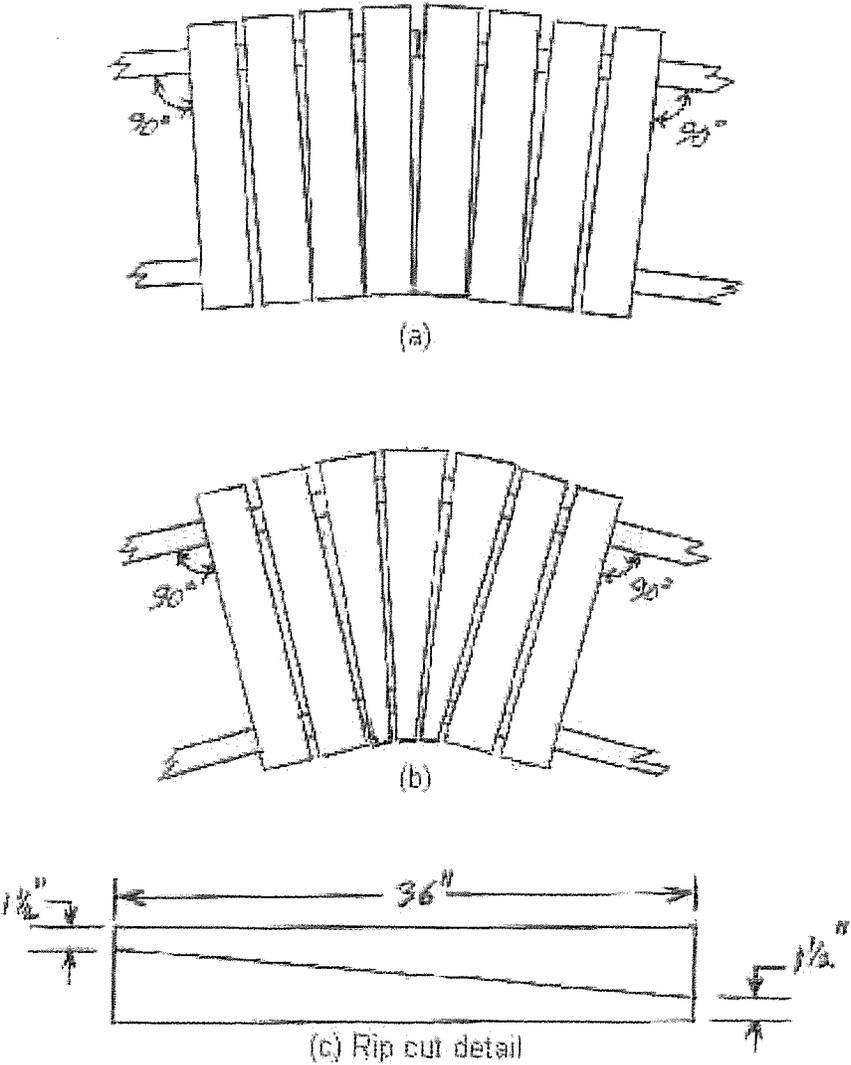

Figure 10 – Decking Detail at Bends
**Decking** – Planks for decking are 2"x6"x3' PT boards which are much stronger than the 5/4" PT boards used earlier which experienced breakage from falling limbs and vandalism. Decking is nailed with 16d hot galvanized nails at a spacing of 3/8" to 1/2". Having pairs of 3/8", 7/16", and 1/2" thick wood gauges are helpful in spacing the planks when nailing. Figure 10 illustrates two methods for decking at bends in the boardwalk. Fanning the planks as shown in 10(a) is useful for shallow bends while sharper bends use tapered planks cut as shown in 10(b) with equal spacing. The detail for cutting these tapered planks is shown in Figure 10 (c).